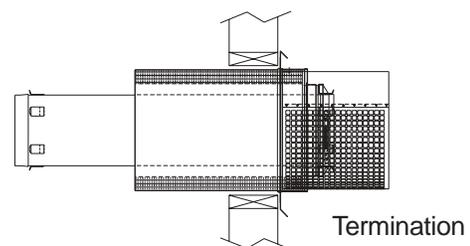

Fig. 17
4. The vent section must protrude at least 2 inches into the screened area beyond the end plate of the Wall Termination Assembly. Attach the screen cover using stainless screws. Align the hole in the top (solid) portion of the screen cover with the top of the assembly and securely screw the two pieces together. The screen cover may be easily removed for inspection of the venting system. (See Fig. 17)